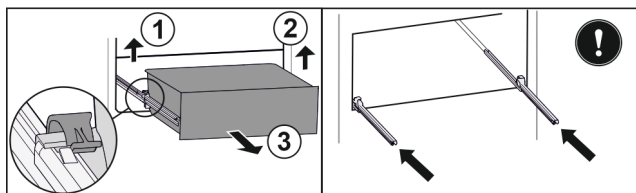

Fig. 126
- Lift left clamp and simultaneously pull drawer forwards on the left. Fig. 126 (1)
- Lift right clamp and simultaneously pull drawer forwards on the right. Fig. 126 (2)
- Remove drawer to the front. Fig. 126 (3)